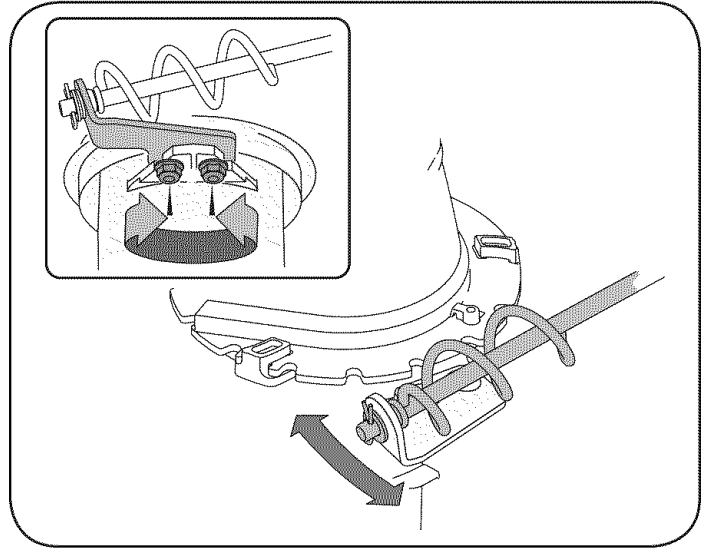

Figure 20
1. Loosen the two nuts which secure the chute bracket and reposition it slightly. See Figure 20.